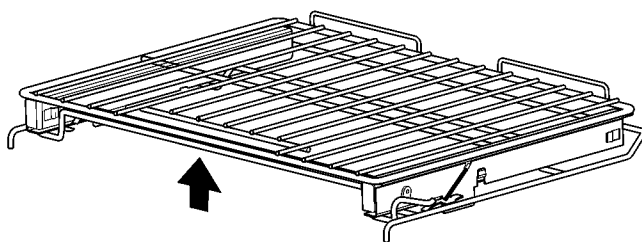

Figure 20: Removing the oven rack
2. While holding up the release lever, pull the glide rack out of the oven until the stop position is reached (Figure 20), using two hands if necessary.